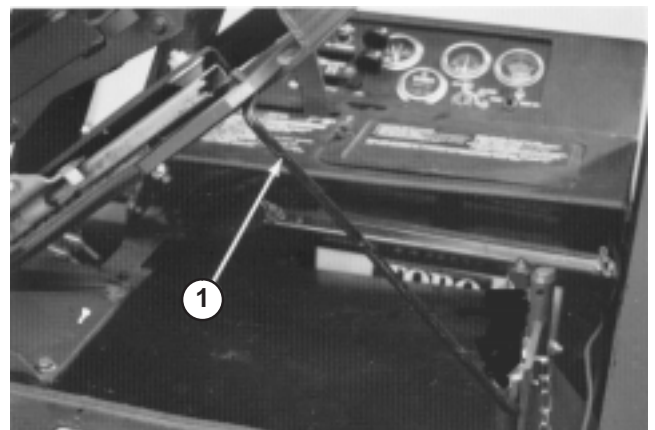

Figure 6
4. Hold seat up with seat support rod (Fig. 6).
6. Hold seat up with seat support rod (Fig. 6).